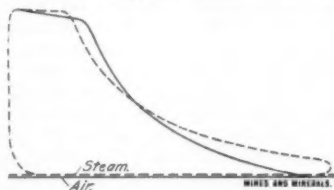

FIGURE 8.
*Indicator diagrams* taken from the same engine under similar conditions of load and speed are slightly different. Figure 8 shows a pair of such diagrams, taken from